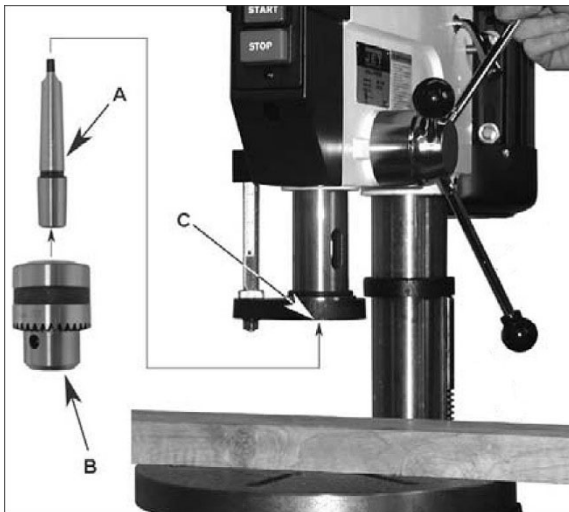

Figure 5
13. Thoroughly clean spindle, arbor and chuck (A/B/C, Figure 5). **Important:** These three pieces must be free of any rust protectant, or lubricant. If they are not clean, the arbor and chuck will fail to seat in the spindle.